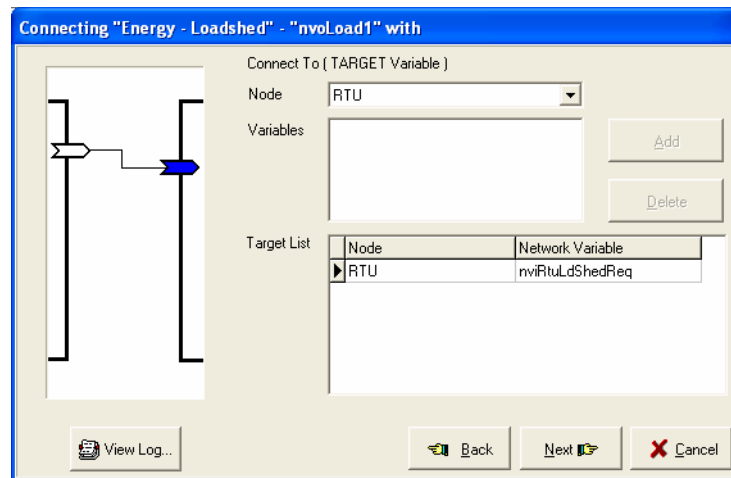

Figure 7 - Connecting with
- 10- The window that opens (Figure 7) allows you to choose the input variable to which you wish to connect the previously selected variable (nvoLoad1). Choose the node of the desired load (in this case RTU) in the drop-down list.